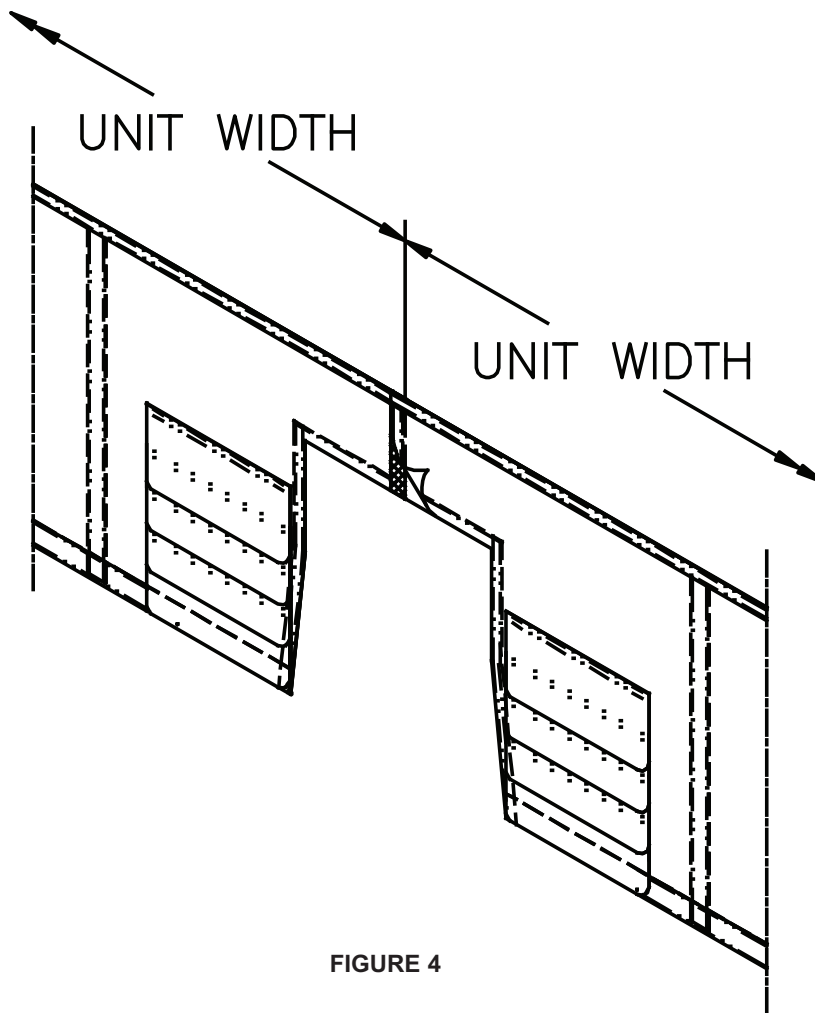

FIGURE 4
2. The common member ends of the curtain face will need to be attached to each other using the velcro sewn on at the factory. (See Figure 4)